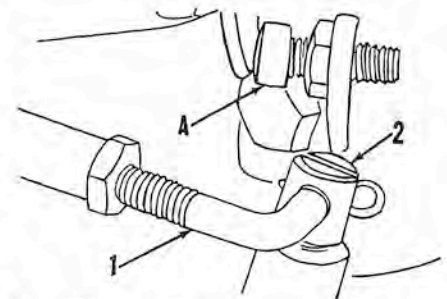
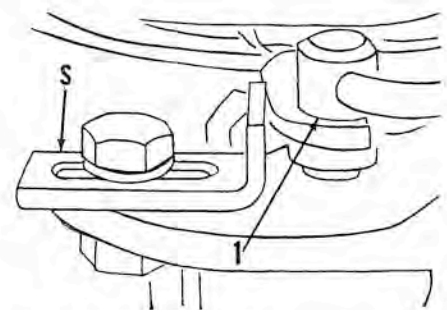

Fig. M55—Maximum advance stop screw used on some models. Refer to text.
Fig. M56—Idle stop adjustment used on some models.
On Mark 28 and 28A, and on Merc 100, 150 and 200, make sure points are correctly adjusted; then turn adjusting screw (A—Fig. M55) to limit magneto advance. The advance spark should occur when No. 1 (top) piston crown reaches a point 0.275 BTDC on Mark 28 and 28A, and Merc 150 and 200; or 0.235 BTDC on Merc 100. The timing can be correctly adjusted by removing No. 1 spark plug and using the correct Mercury Timing Gage or a depth gage to measure piston position; then adjusting the link (1) until points just break. Adjust the stop screw (A) to limit magneto advance travel at this point. After maximum advance and carburetor have been adjusted, set the magneto idle stop (S—Fig. M56) to obtain the desired smooth performance with levers set for "Troll."